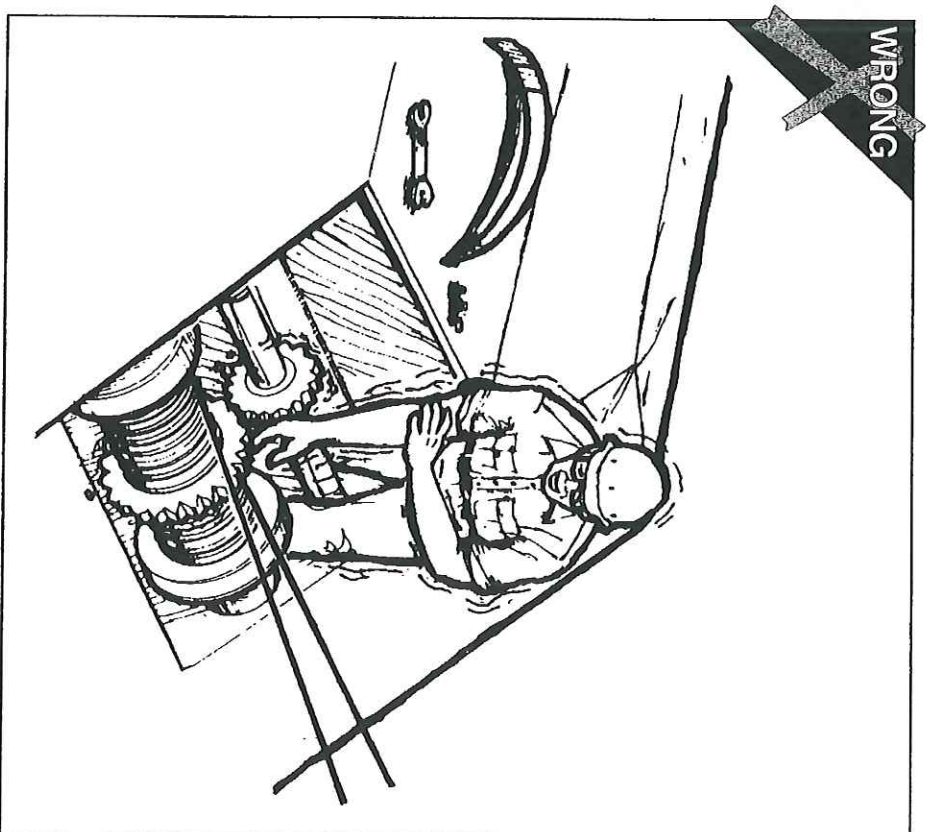

FIG. 56
- **Keep hands, feet, and clothing well away from all moving parts. Never put fingers** in open gears or through the spokes of a gear or under a rope that may tighten or move. (FIG. 56)